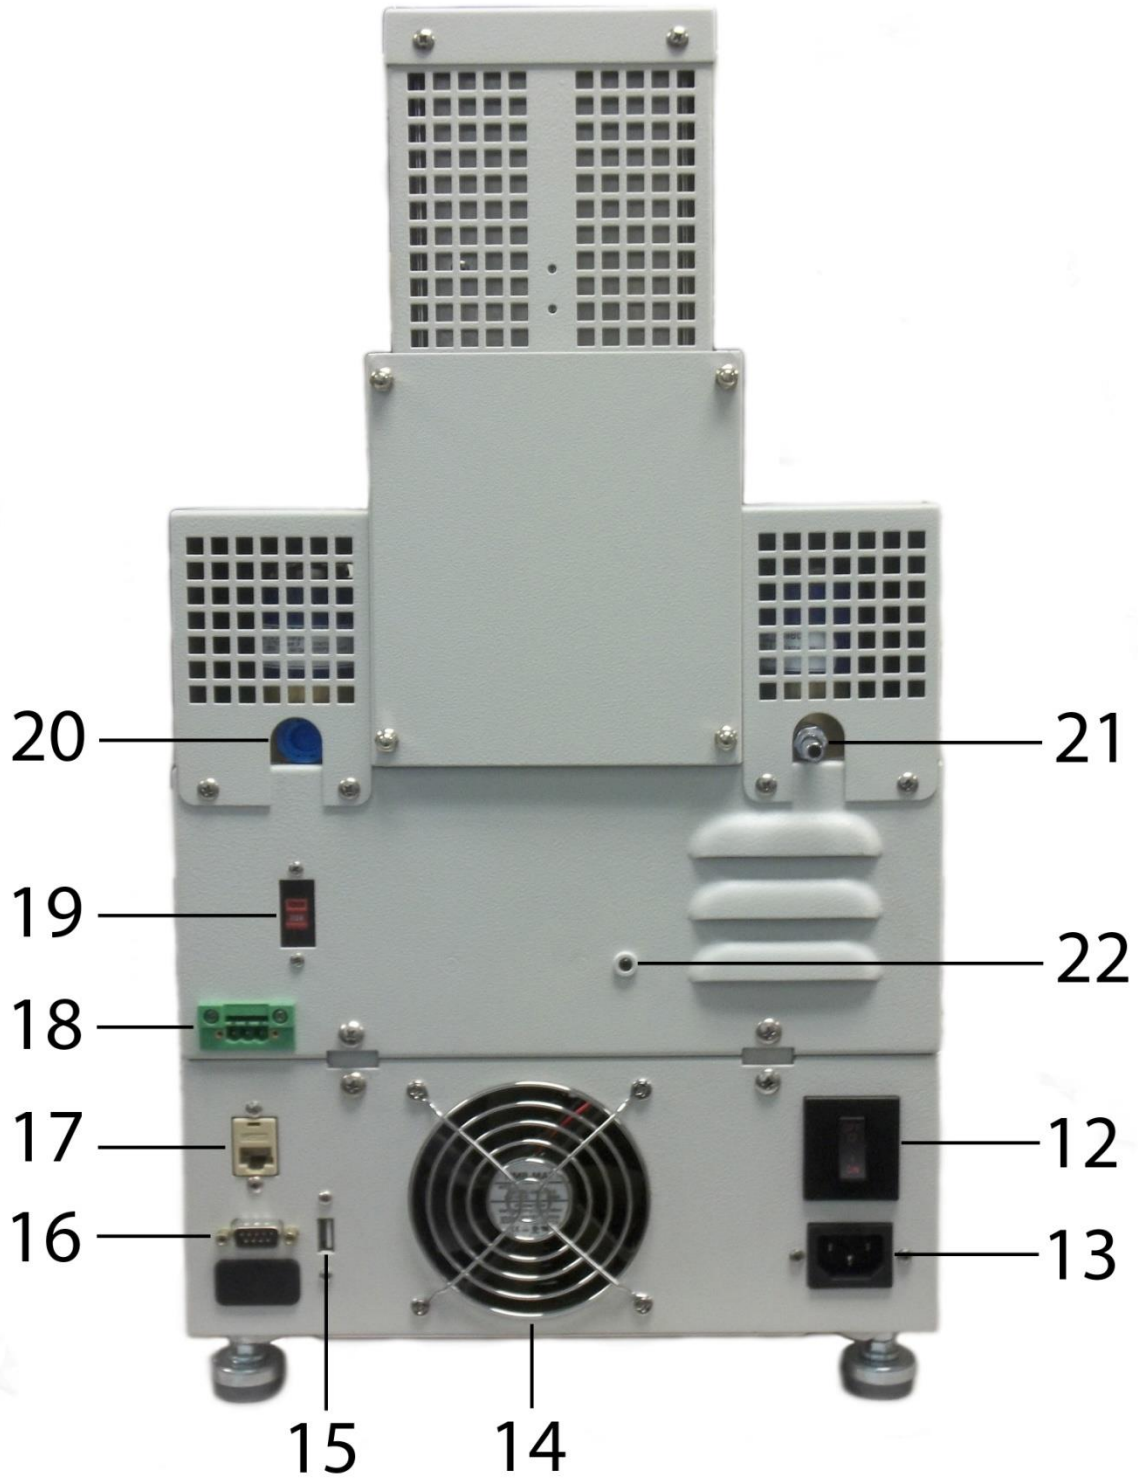

Figure 2: Instrument Descriptions_Back
1. **Power Button:** This button allows the user to turn the instrument on and off from the front side. The main power switch at the back of the unit (**Figure 2, Item 12**) must be switched ON prior to pressing on the power button.
13. **AC Outlet:** The analyzer has been designed with an integrated C13 line socket in order to easily change plug types (115V or 230V). Internal voltage can be switch using the Voltage switch (**Figure 2, Item 19**).